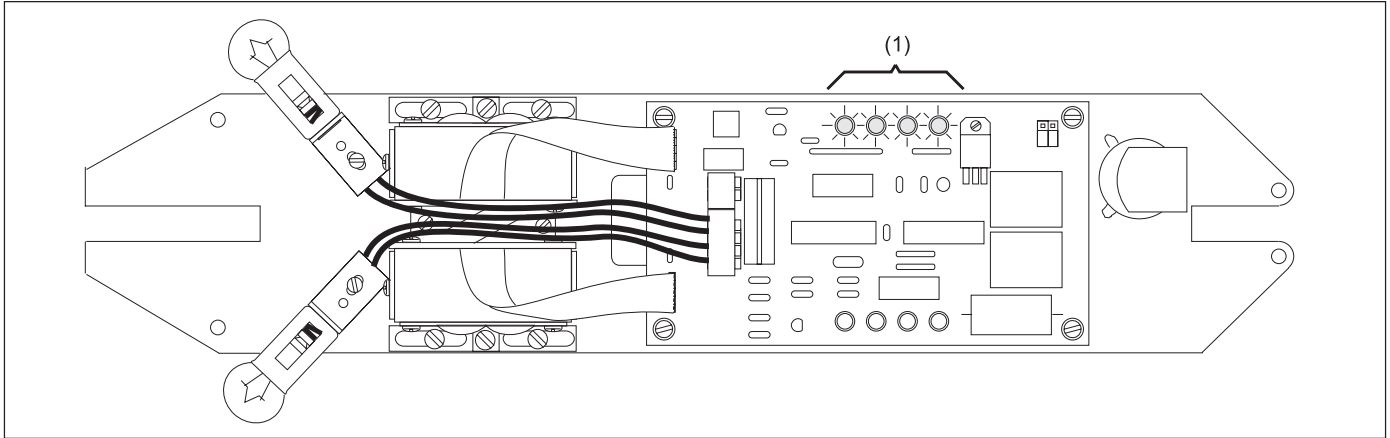

Figure 16.
1. Turn the Tel-E-Foul on and check the red signal indicator LEDs. All four indicator lights for each lane should be on. Adjust sensor assembly as required if all lights are not on. Refer to *Figure 16*.